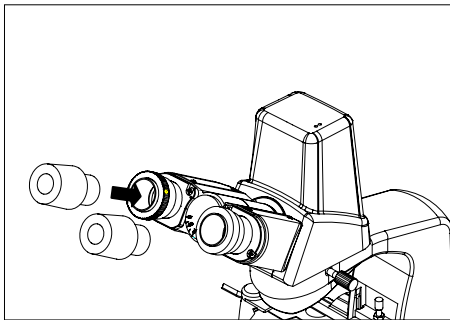
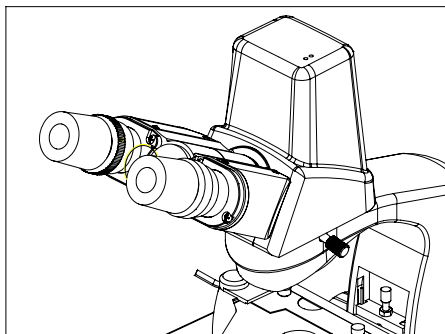

Fig.3
Fig.4
2.2.2 Installing the eyepieces (Fig.3、 Fig.4)
Insert the eyepieces into the eyepiece tube until they are against each other as shown in Fig.4.